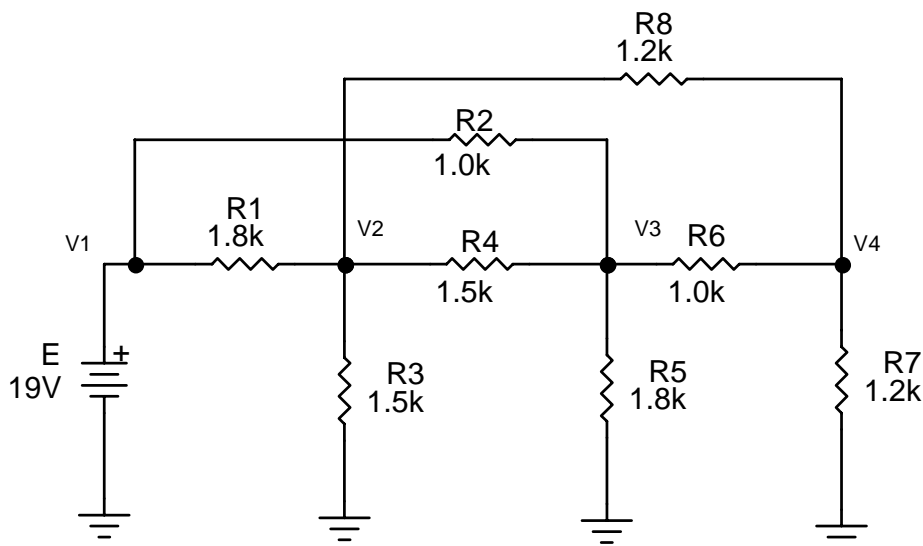

Figure 1. Nodal Analysis Circuit 1.
- 1.) Construct the circuit in Figure 1 and measure the voltages V1, V2, V3, V4. Record the values in Table 1.